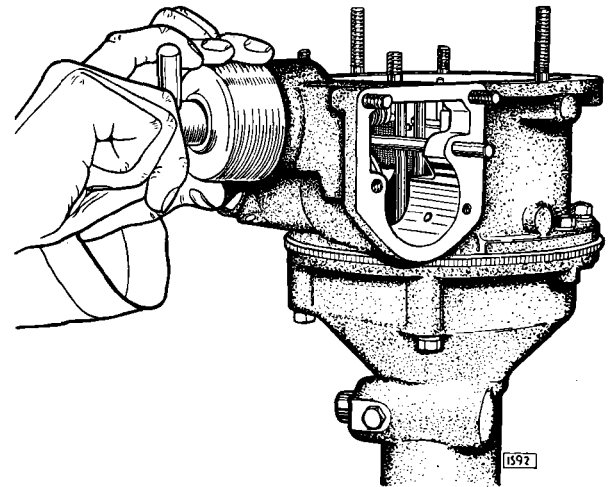

Fig. 36. Extracting the oil pump (Tool No. L.183A).
4. Take out the two cheese head screws securing the pump body flange and extract the pump body. A special extractor tool (Fig. 36) is available for this purpose. This screws into the bottom of the pump body in place of the screwed plug.